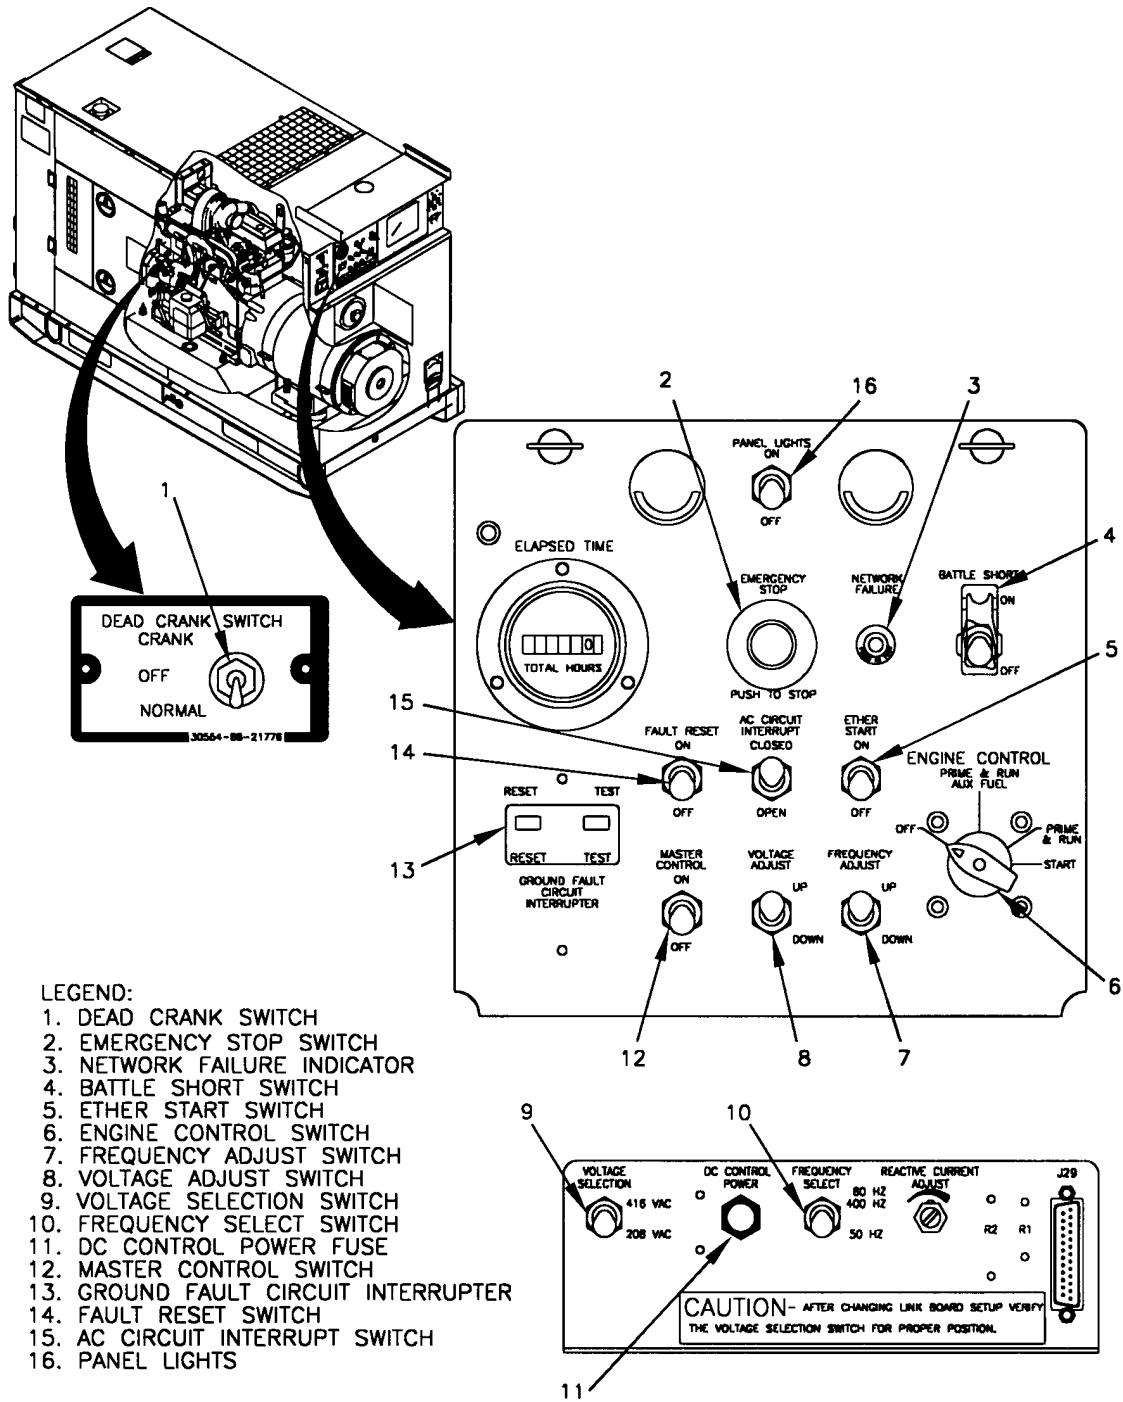

FIGURE 2-8. GENERATOR SET CONTROLS
- b. Place DEAD CRANK switch (1, Figure 2-8) in NORMAL position.
- l. Ensure EMERGENCY STOP switch (2, Figure 2-8) is pulled out.
- m. Ensure BATTLE SHORT switch (4) is in OFF position.
- c. Hold FAULT RESET switch (14, Figure 2-8) in ON position for two seconds. Release switch.
- p. Perform all DURING (D) PMCS requirements in accordance with Table 2-5.
- a. Hold AC CIRCUIT INTERRUPT switch (15, Figure 2-8) in OPEN position until CONTACTOR POSITION on CIM display screen reads OPEN.
- c. Place ENGINE CONTROL switch (6) in OFF position.
- b. Determine voltage requirements of load and position voltage reconnection terminal boards of the two generator sets to the required voltage connection. Ensure FREQUENCY SELECT switches (10, Figure 2-8) on both generators are positioned for the same frequency requirements (50 Hz or 60 Hz).
- c. Use VOLTAGE ADJUST switch (8, Figure 2-8) to obtain the same voltage indication on each set.
- d. Use FREQUENCY ADJUST switch (7) to obtain approximately the same frequency indication on both sets. Observe CONTACTOR POSITION on CIM display screen to ensure load contactor at load is open.
- e. Momentarily hold AC CIRCUIT INTERRUPT switch (15) on generator set No. 1 in CLOSED position until CONTACTOR POSITION reads CLOSED.